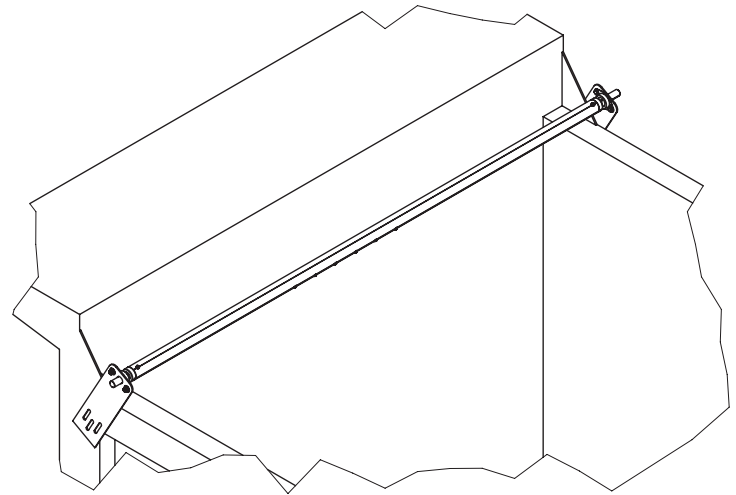

Figure 36-1
3) **Figure 36-1.** Mount roll bar assembly to the bed. Clamp the assembly to the bed. Make sure the roll bar is level to the bed.